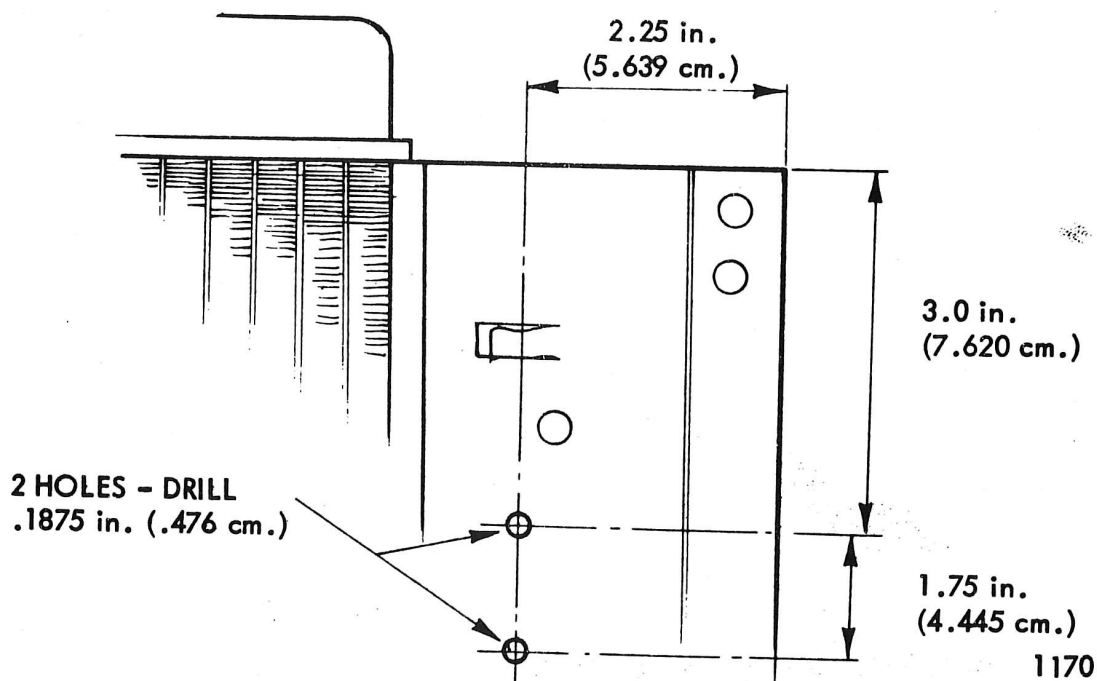

Fig. 5. RECUPERATOR BOTTLE MOUNTING
3. Using the bracket as a template, drill two .1875 in. (4.763 mm.) holes in the R/H side flange of the radiator (see Fig.5), so that the bracket can be mounted vertically on the rear face of the side flange. Secure the bracket with the original fixings.